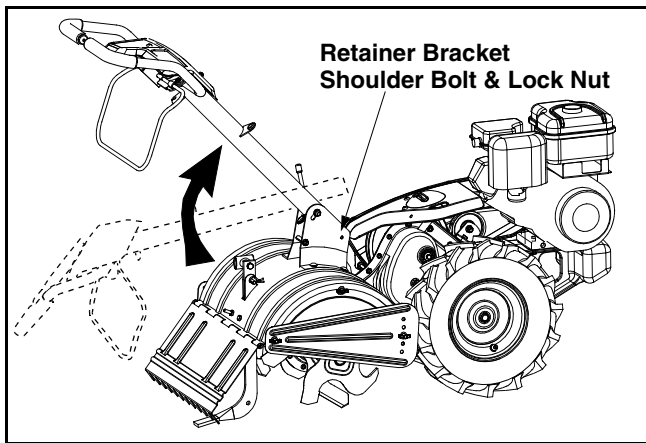

Figure 3
- Lift up the handle assembly and align the bottom holes in the handle assembly with the holes in the pivot bracket. Insert shoulder bolt from the left side of unit through the pivot bracket and the retainer bracket on the right hand side of the unit. See Figure 3.